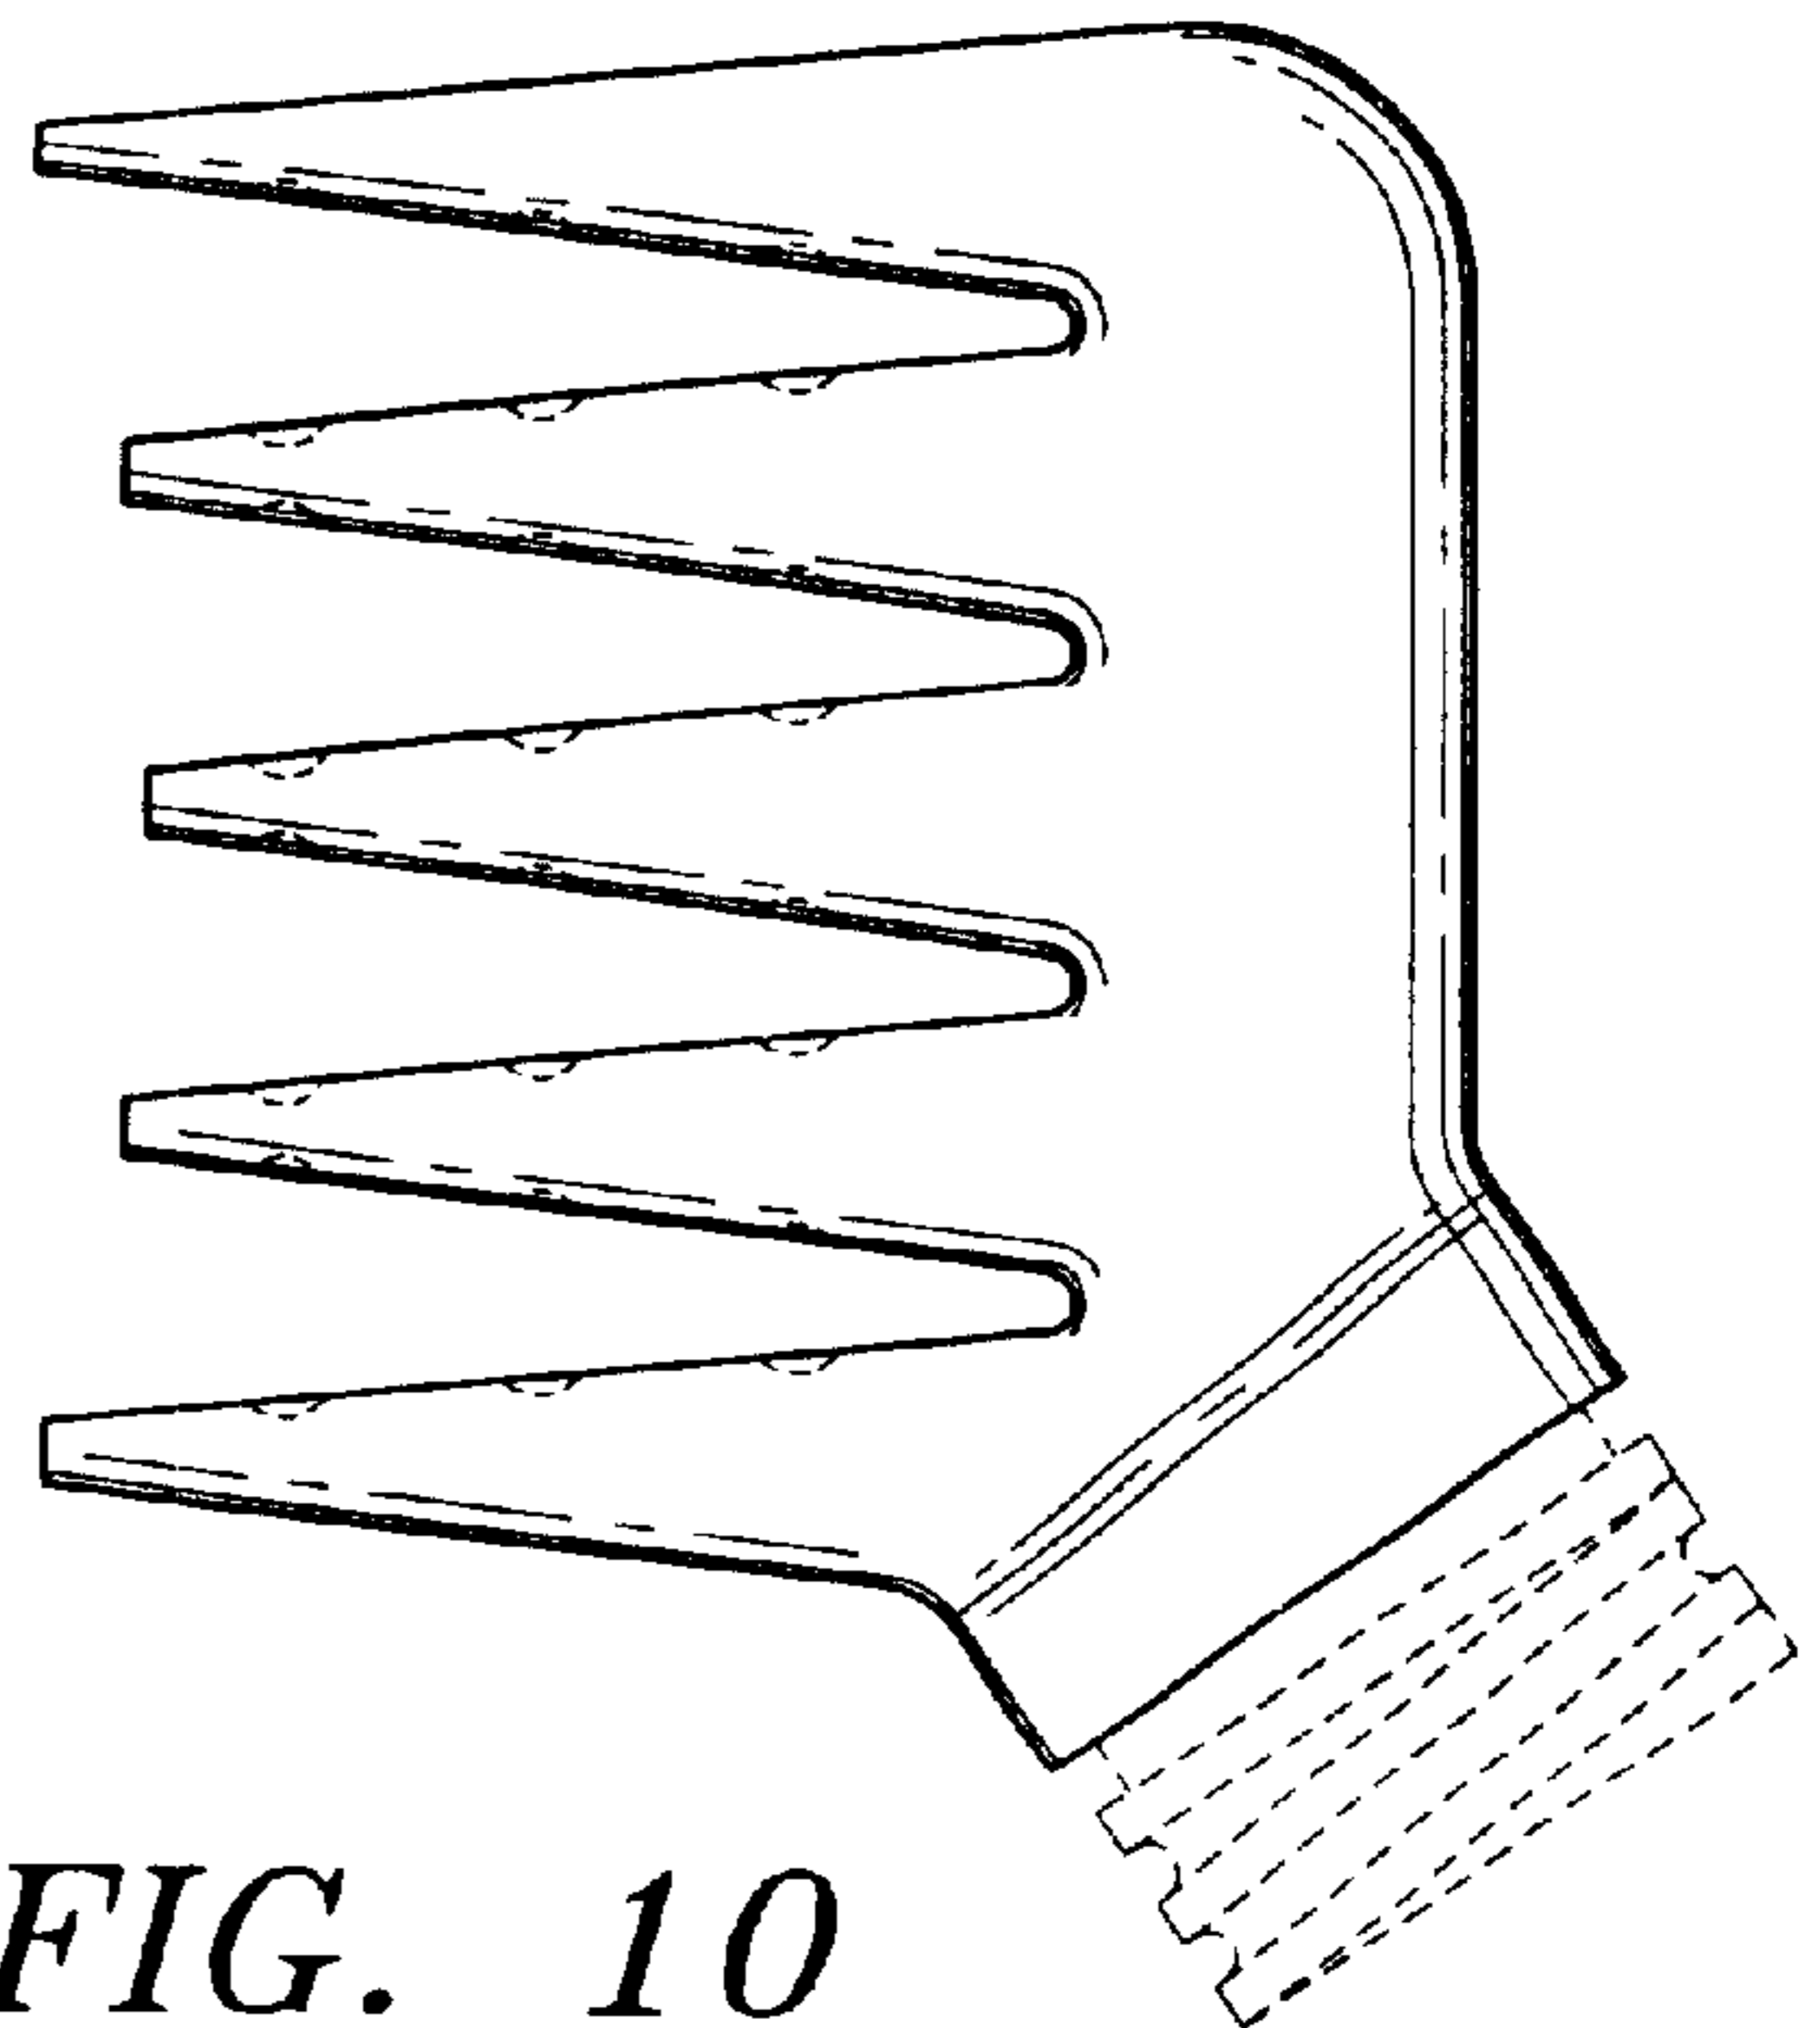

FIG. 10
- FIG. 10 is a left side view thereof; the right side view being a mirror image thereof;